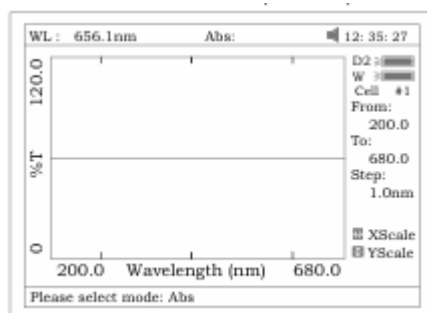

Fig.43
2. Press **【F2】** to select the test mode, “Abs”, “%T” or “E” (Fig 43).